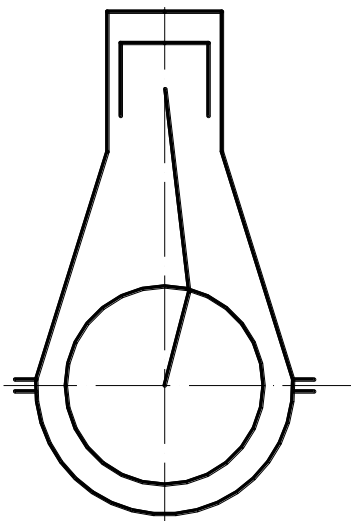
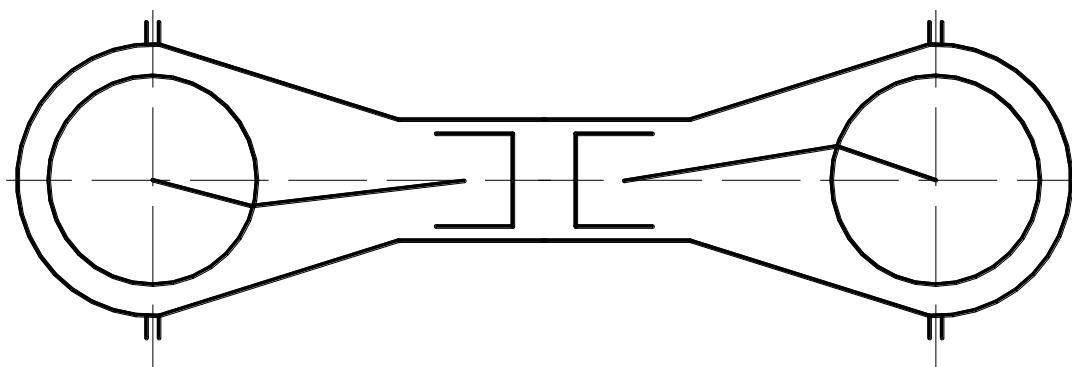

Fig.1
Fig.2
- One-row - standing, lying, sloping, and the like. Fig.1 and Fig.2.